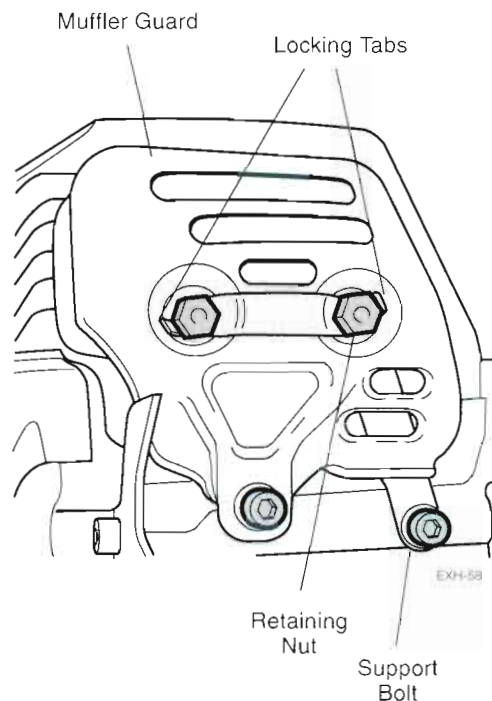

Figure 9.3 Muffler Installation: 575, 577, late-production 680, 695 (typical)
STEP 1. Bend the lock plate tabs from around the muffler retaining nuts, and then unscrew the two 8 mm nuts securing the guard and muffler body to the cylinder flange (Figure 9.3).